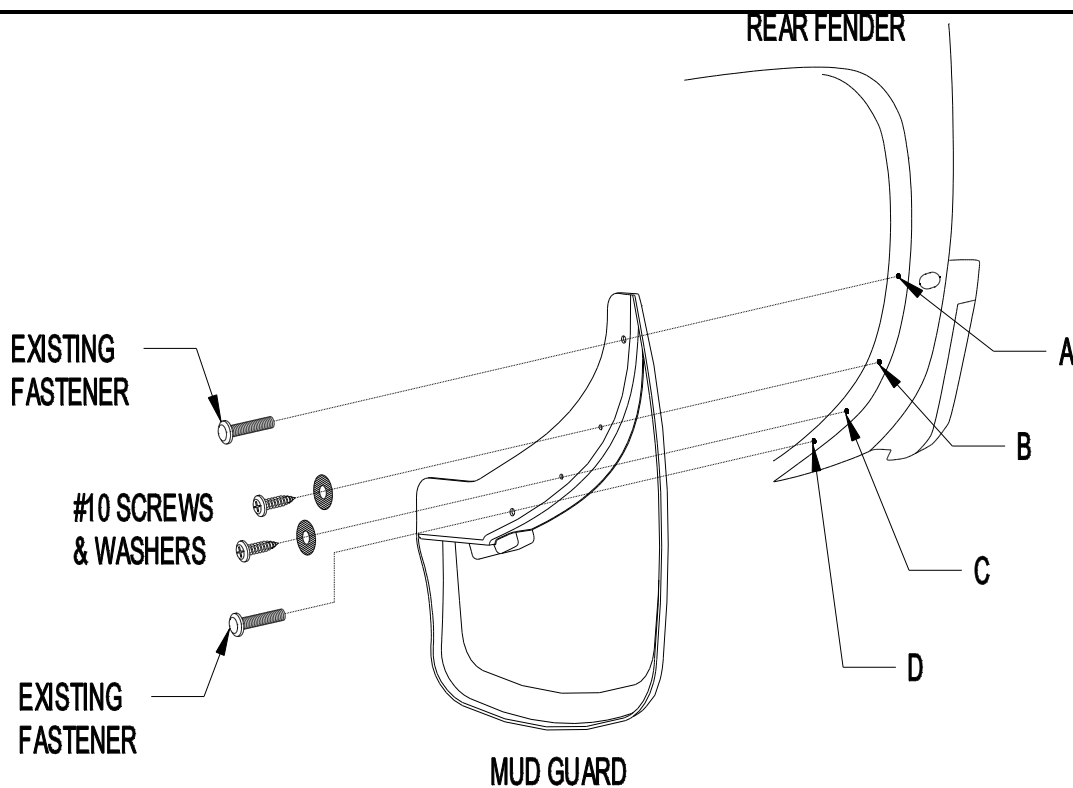

Figure 1
1. Remove the existing fasteners from locations A and D (Figure 1).
4. Install #10 screws and washers at locations B and C (Figure 1).